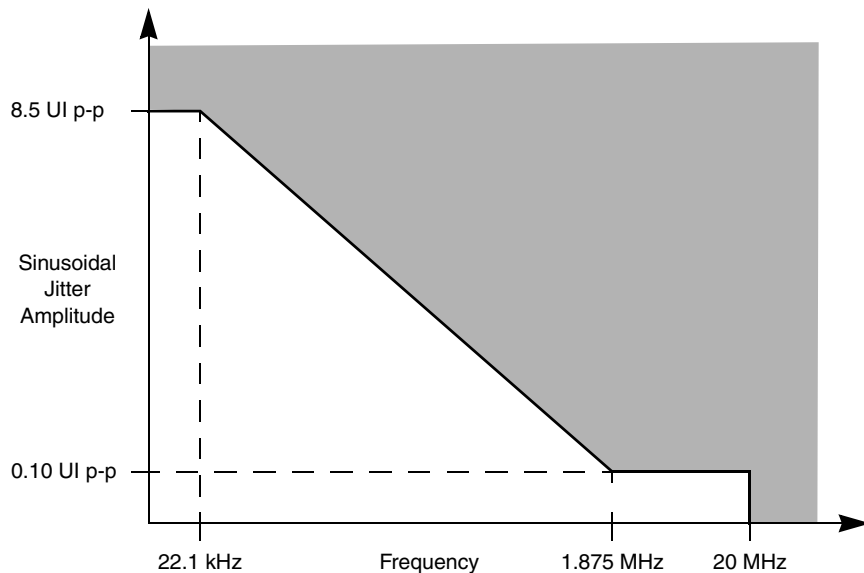

Figure 18. Single Frequency Sinusoidal Jitter Limits
Notes: <ol style="list-style-type: none"> 1. Measured at receiver. 2. Total jitter is composed of three components, deterministic jitter, random jitter, and single frequency sinusoidal jitter. The sinusoidal jitter may have any amplitude and frequency in the unshaded region of Figure 18. The sinusoidal jitter component is included to ensure margin for low frequency jitter, wander, noise, crosstalk, and other variable system effects.
- See Figure 18 for single frequency sinusoidal jitter limits
- Refer to RapidIO™ 1x/4x LP Serial Physical Layer Specification for interpretation of jitter specifications. Also see Figure 18.